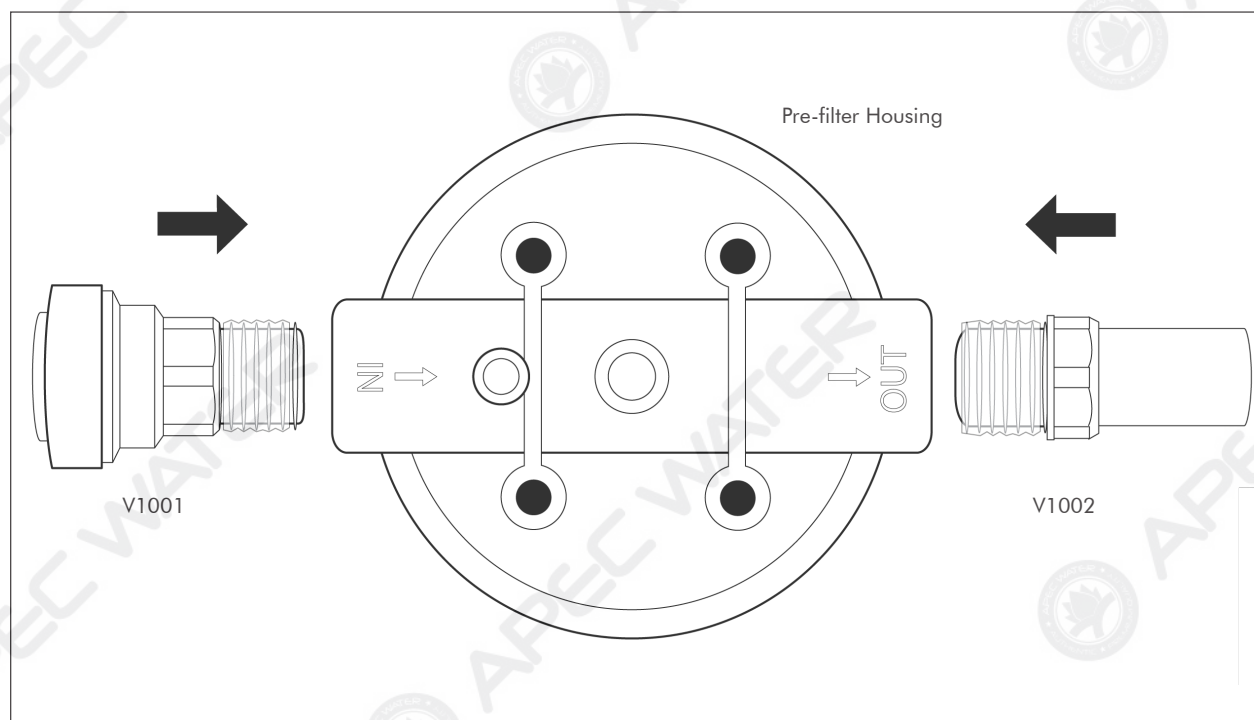

Fig.2
Step 2. Screw V1001 into the housing INLET connection, and screw V1002 into the housing OUTLET connection. See **Fig.2**.